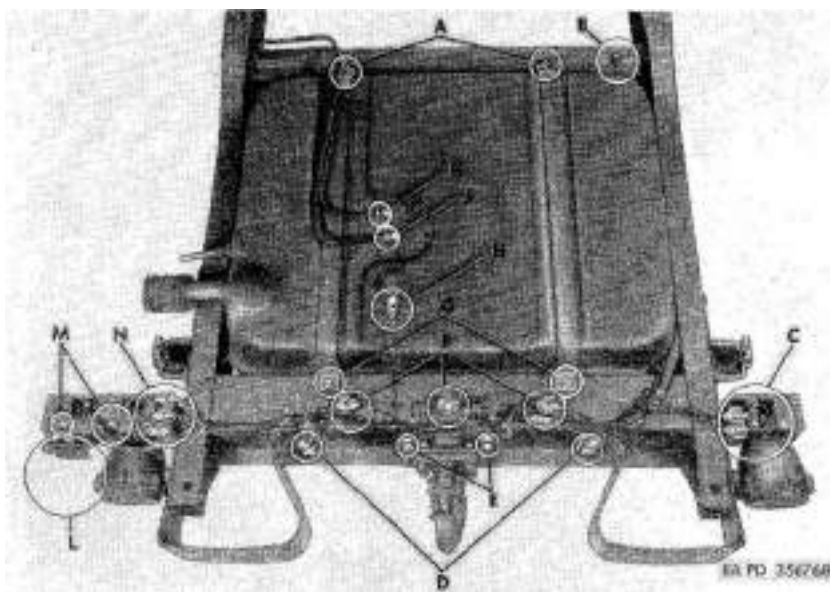
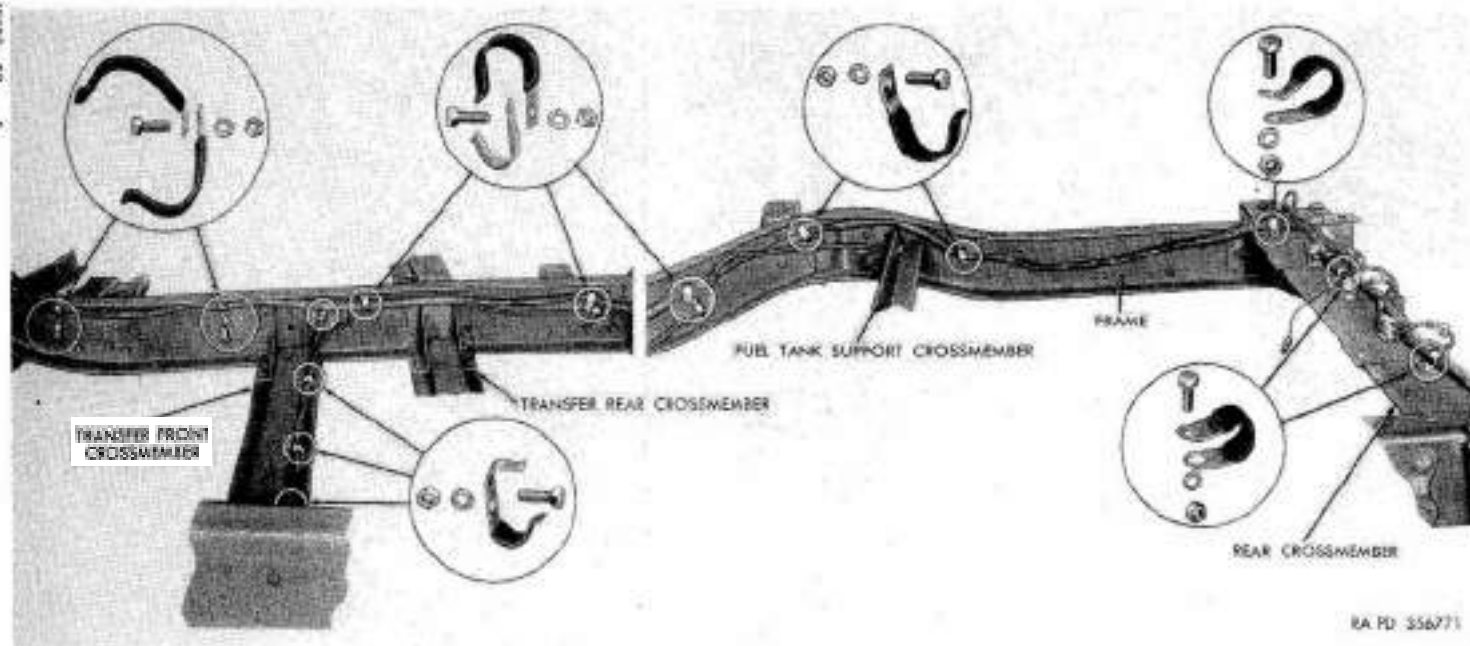

Figure 37. Fuel tank and miscellaneous disconnect points.
Figure 39. Wiring harness and brake line disconnect points.
- (14) To remove fuel tank (*fig. 37*), disconnect fuel gage sending unit cable (H, *fig. 37*), fuel tank-to-air cleaner elbow vent line (K, *fig. 37*), and fuel line (J, *fig. 37*). Remove nuts, lock washers, and screws (A and G, *fig. 37*) from the support straps and hold-down straps. Remove fuel tank.
- (15) Disconnect wiring harness at tail light cable terminal connector shells (C and N, *fig. 7*). Remove guards from blackout tail light mounting brackets (five screws and lock washers) (C, M, and N, *fig. 37*). Remove trailer receptacle (L, *fig. 37*) from left mounting bracket (four nuts, lock washers, and cap screws).
- (16) Remove blackout tail lights and mounting brackets (two lock washers, nuts, and cap screws, each side).
- (17) Remove right and left rear bumpers (two nuts, lock washers, and cap screws, each side) (D, *fig. 37*).
- (18) To remove pintle assembly, remove cotter pin, large slotted nut, pintle shaft, and pintle shaft bracket (four nuts, lock washers, and screws) (E, *fig. 37*). Remove pintle assembly.
- (2) Remove wiring harness from frame right side rail, frame transfer front cross member, and frame rear cross member clips (*fig. 39*). Remove harness and clips. Remove three open-tension-type clips at frame rear cross member (F, *fig. 37*).
- (2) Position wiring harness in frame right side rail, across transfer front cross member and rear cross member (fig. 39).
- (3) Insert a 7/16-20NF x 1 1/2 cap screw for the running board rear hanger (head of screw inside) through each frame side rail, just below upper flange, between the transfer rear cross member gussets. Insert a 7/16-20NF x 11/4 cap screw through upper rear hole in frame left side rail (head of screw inside) for running board front hanger.
nuts). Install three wiring harness connector shells (F, fig. 37) in the open tension-type clips.
e. Install Pintle Assembly. Install pintle shaft bracket on inside of frame rear cross member (four $\frac{1}{2}$ -20NF x $1\frac{5}{8}$ cap screws, $\frac{1}{2}$ -inch lock washers, and $\frac{1}{2}$ -20NF nuts) (E, fig. 37). Install pintle shaft, with pintle hook, in pintle shaft bracket. Install plain washer and slotted nut on pintle shaft. Tighten slotted nut so that pintle rotates freely and does not bind. Install new $7/32$ x $2\frac{1}{4}$ cotter pin.
f. Install Right-and-Left-Rear Bumpers (fig. 37). Position bumpers on frame side rails and rear cross member. Attach bumpers to rear cross member with four $\frac{3}{8}$ -18NF x 2 cap screws, $3/4$ -inch lock washers, and $\frac{3}{8}$ -18NF nuts (D). Do not tighten nuts until blackout taillights and mounting brackets are installed. Insert two $\frac{3}{8}$ -18NF x 2 cap screws through each bumper at the end of the frame side rails. Do not install lock washers and nuts until the two rear body bolts and lifting shackles are installed.
g. Install Right and Left Blackout Taillights and Mounting Brackets (fig. 37).
- (1) Install blackout taillights and mounting brackets as assemblies on rear of frame side rails (two $\frac{3}{8}$ -18NF x 2 cap screws, $5/8$ -inch lock washers, and $\frac{3}{8}$ -18NF nuts, each side). Tighten nuts.
- (2) Install trailer receptacle (L) in left mounting bracket (four $\frac{1}{4}$ -28NF x 1 cap screws, $\frac{1}{4}$ -inch lock washers, and $\frac{1}{4}$ -28NF nuts). Connect wiring harness and taillight cable terminal connector shells (C and N). Insert connector shells in tension-type clips.
h. Install Guards on Blackout Taillight Mounting Brackets (fig. 37). Install guards on right and left taillight mounting brackets (five $\frac{1}{4}$ -28NF x $5/8$ cap screws and $1/4$ -inch internal external teeth lock washers) (C, M, and N).
i. Install Fuel Tank (fig. 37).
- (1) Position hold-down straps on rear cross member and fuel tank support cross member with weld nuts at rear. Attach support straps to rear cross member with $7/16$ -20NF x $11/4$ cap screws and $7/16$ -inch lock washers ; then